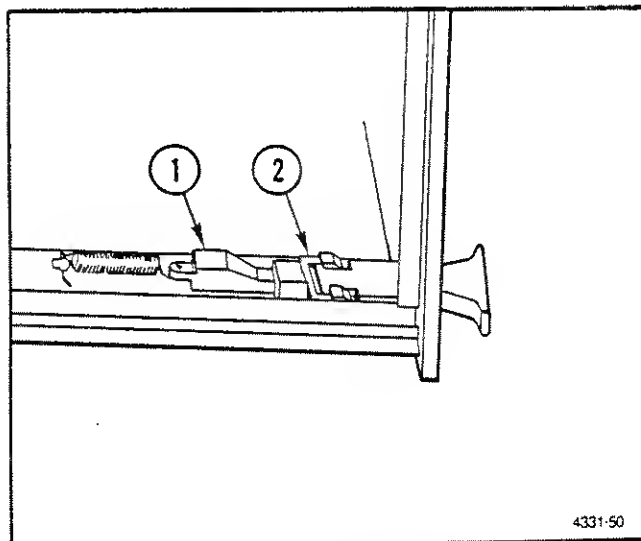

Fig. 7-6. Latch assembly pictorial.
b. Remove the front cover screws (2).
c. Remove the latch assembly using the following procedure (refer to Fig. 7-6):